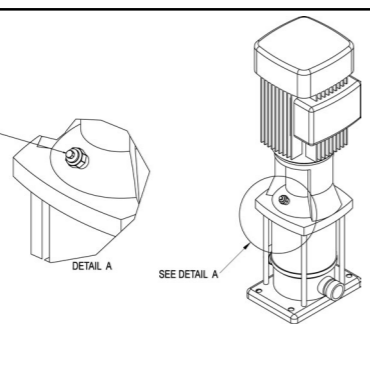

Fig. 14 0627131
4. Loosen the relief plug (A, Fig 14) 1-2 revolutions until water and air begin to flow out.